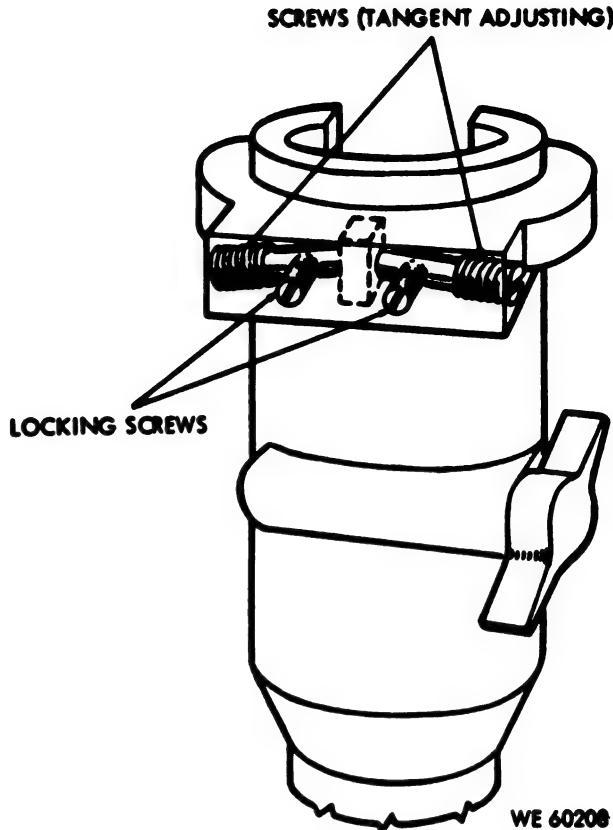

Figure 79. Tangent adjusting screws in telescope socket of telescope mount.
(7) If the fine elevation indexes (fig. 11) of the panoramic telescope do not coincide, loosen the clamping screws on the elevation knob and shift the elevation micrometer to aline the zero with the fixed index. Tighten the screws and verify the adjustment. If the vertical reticle line is not alined with the distant aiming point, loosen the tangent screws (fig. 79) in the telescope socket and adjust the tangent screws until the vertical reticle line is properly alined. Tighten the locking screws and verify the adjustment. If the limit of this adjustment is inadequate, refer the telescope and mount to ordnance maintenance personnel for correction.
- (3) Adjusting M12A7Q panoramic telescope to target.
- (b) Loosen locking screws (fig. 79).
- 3. Lower the gun tube to 0 mil; raise the telescope mount to 0 mil with backlash eliminated. If not on target, adjust M12A7Q with mount tangent adjusting screws (fig. 79).